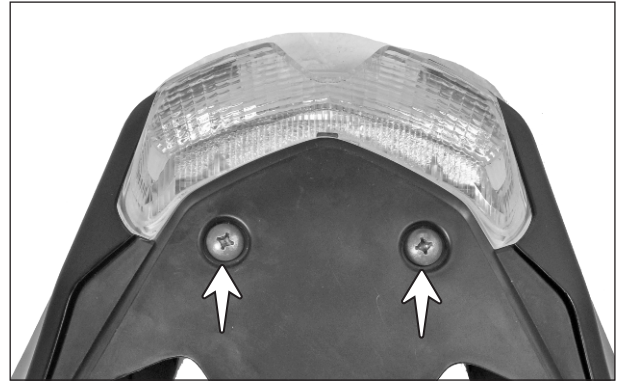

Fig. 5.59
- Remove the CRR pan head screw (M6x16 - 2 nos.) from the tail assembly mounting. (Fig. 5.59)